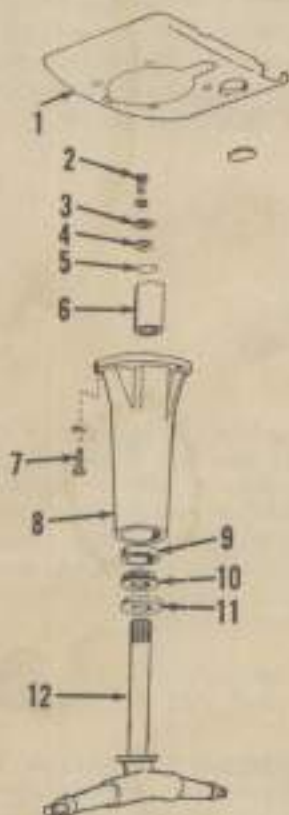

Fig. 4—Exploded view of typical pedestal and associated parts.
**4. R&R PEDESTAL.** Raise front of tractor, then remove cap screws retaining pedestal to front support casting. The splined coupling (6—Fig. 4) will be removed with the pedestal assembly.
**5. OVERHAUL.** To overhaul the removed unit, remove cap screw (2—Fig. 4), washer (3), shims (4) and coupling (6). NOTE: Make certain that shims (4) are not lost or damaged as they provide the proper bearing adjustment. With splined coupling removed, spindle shaft can be withdrawn from pedestal. Pack bearing (10) with No. 2 wheel bearing grease. Oil seal (11) is of the lip type and should be installed with lip towards bearing. Coupling should be installed on spindle shaft with end of coupling nearest internal snap ring downward. When reassembling, vary the number of shims (4) to provide shaft with a free rolling fit and no end play.